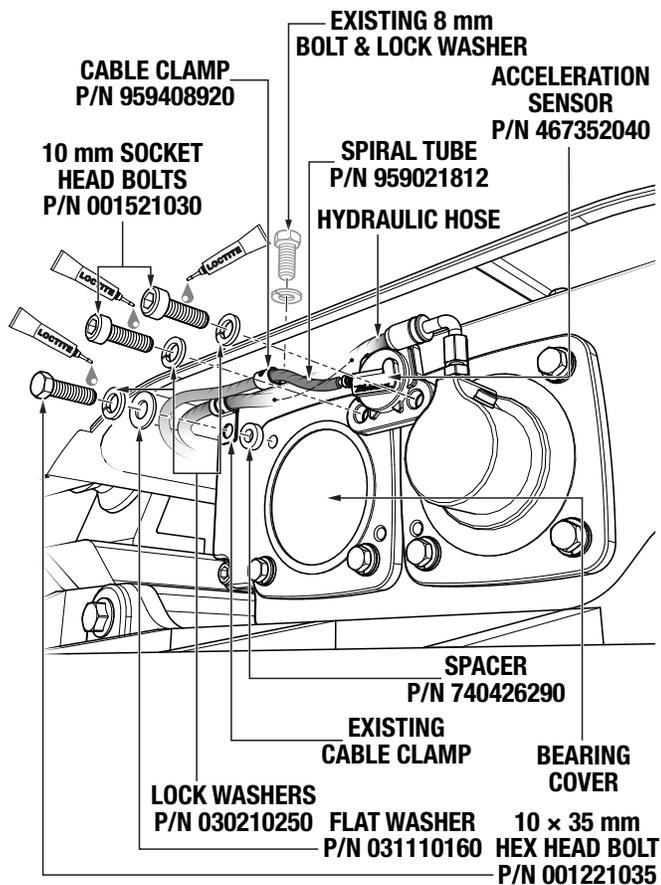

Figure 8. Acceleration Sensor Installation
- Place a small cable clamp (P/N 959408920) onto the spiral tube (P/N 959021812) near the sensor end of the acceleration sensor assembly (P/N 467352040). See Figure 8.
- Insert the existing 8 mm bolt that was removed earlier through the cable clamp (P/N 959408920) and existing lock washer. Reinstall the bolt at its original location and tighten securely. See Figure 8.
- Apply Loctite® 243™ to the threads on the two 10 mm socket head bolts (P/N 001521030). See Figure 8.
- Secure the acceleration sensor (P/N 467352040) to the vibrator with the two 10 mm socket head bolts (P/N 001521030) and lock washers (P/N 030210250). Torque the bolts to 54.2 ft-lb (73.6 N-m). See Figure 8.
- Apply Loctite® 243™ to the threads on the 10 × 35 mm hex head bolt (P/N 001221035). See Figure 8.
- Insert the 10 × 35 mm hex head bolt (P/N 001221035) through a lock washer (P/N 030210250), the flat washer (P/N 031110160), the existing cable clamp on the hydraulic hose, and the spacer (P/N 740426290). See Figure 8.
- Secure the hydraulic hose to the bearing cover with the 10 × 35 mm hex head bolt (P/N 001221035). Torque the bolt to 54.2 ft-lb (73.6 N-m). See Figure 8.